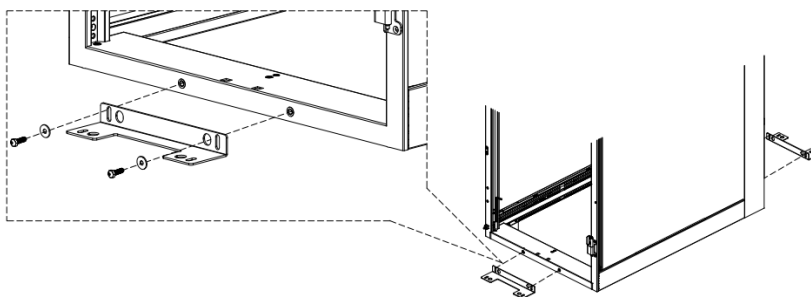

Figure 5.5.2
- Refer to Figure 5.5.2 to install the L bracket when there are no casters and leveling feet.